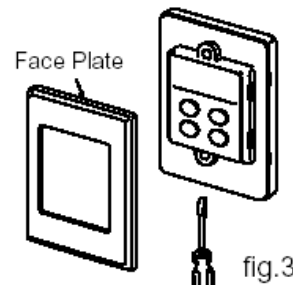

fig.3
4. Remove the face plate from the controller using a flat screwdriver. Take care not to damage the cover (fig. 3.)